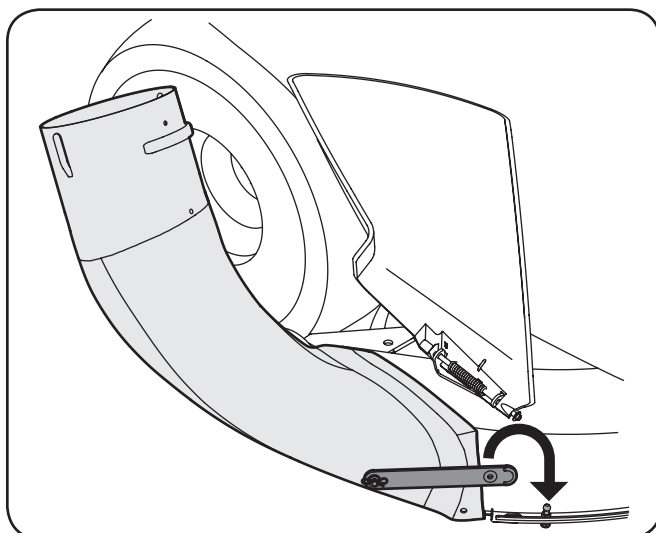

Figure 4-24
12. Secure the chute elbow to the tractor's deck by hooking the chute strap onto the ball pin installed earlier on the deck. See Fig. 4-24.